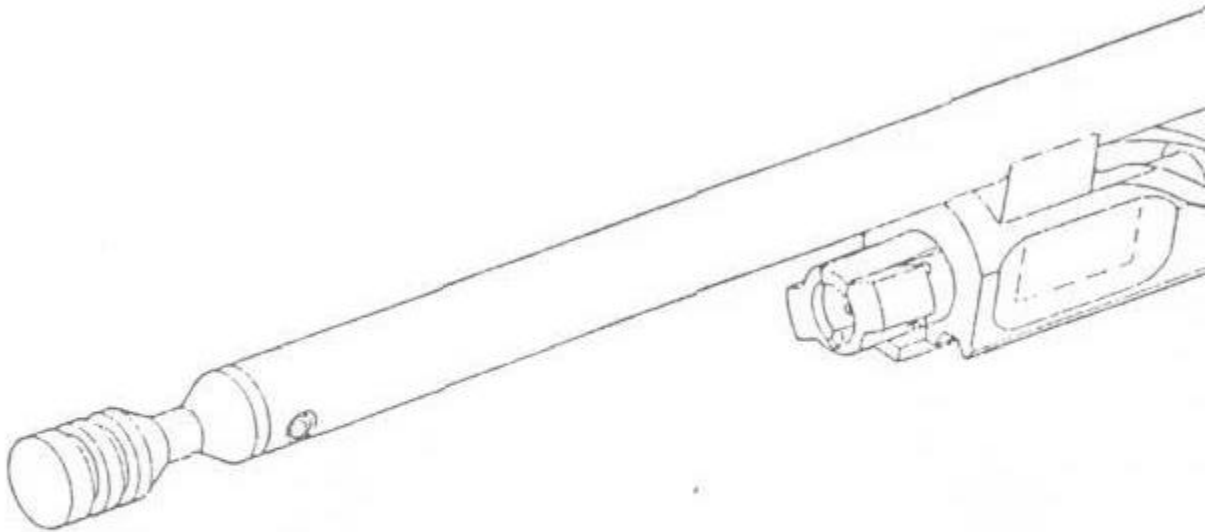

FIGURE 24
20. When reinstalling the cam pin, be sure that the beveled side of the cam pin top is towards the top of the bolt carrier. (See Figure 24).